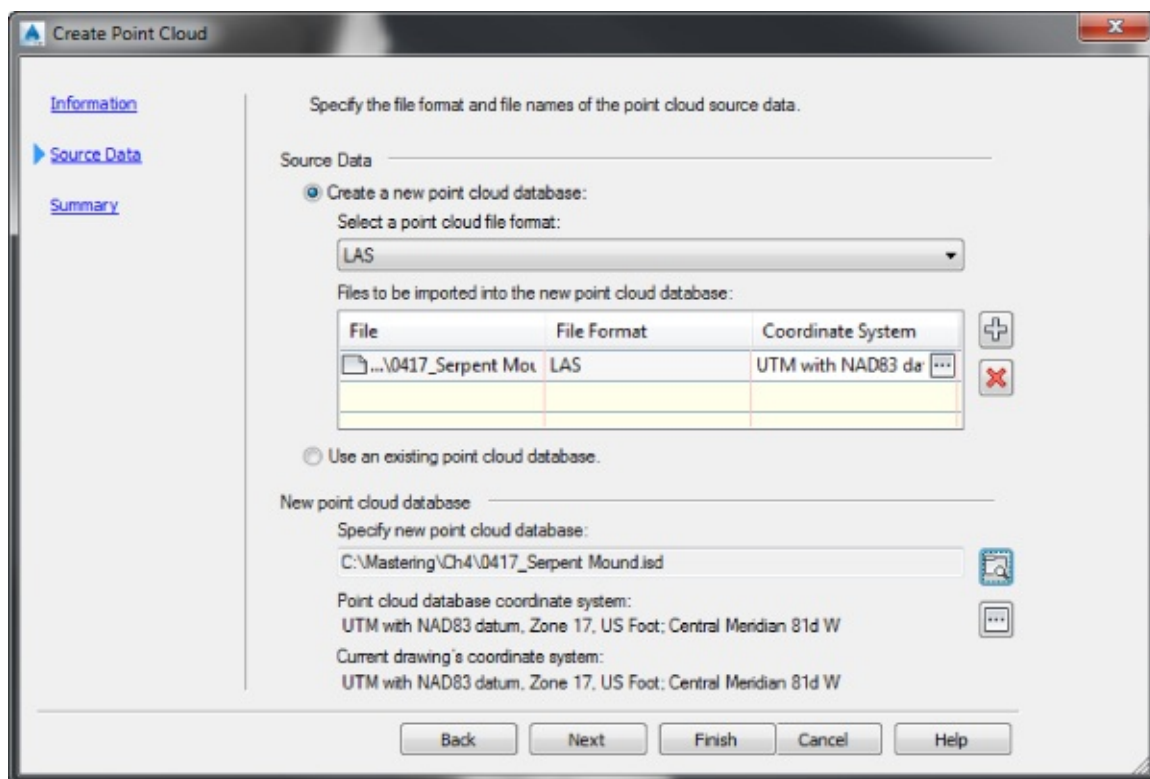

Figure 4.56 The Create Point Cloud – Source Data page
5. Set Point Cloud Style to Elevation Ranges, as shown in Figure 4.55, and click the Next button. The Source Data page is displayed, as shown in Figure 4.56.